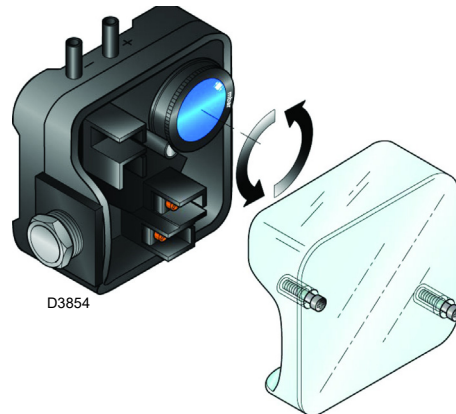

Fig. 33
- Adjust the air pressure switch (Fig. 33) to the start of the scale.